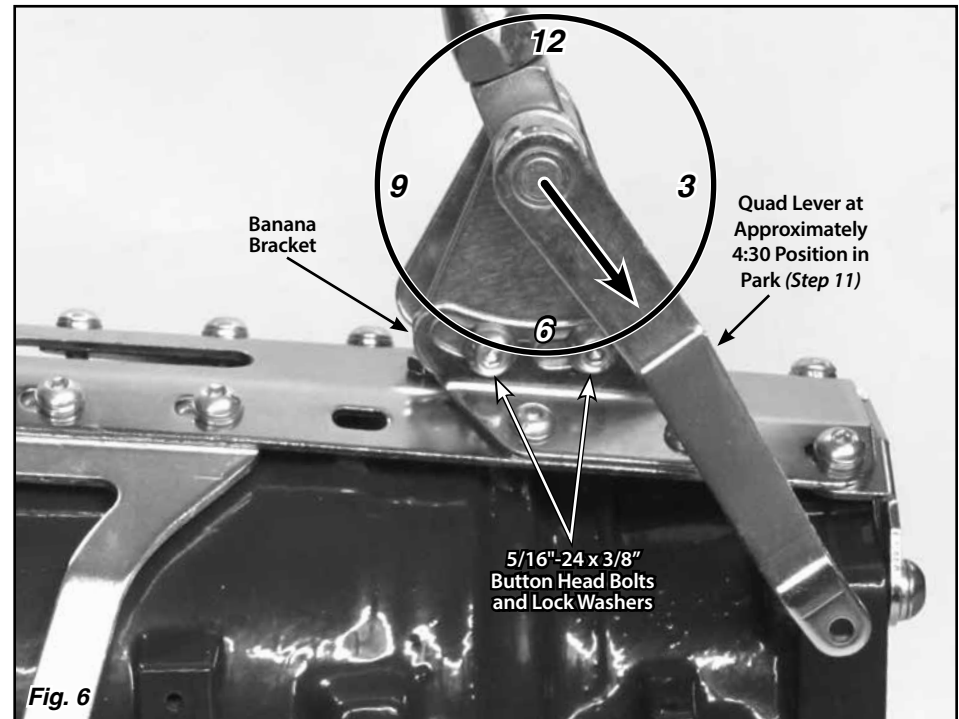

Fig. 6
**Step 10:** Make sure the two 5/16"-24 x 3/8" button head bolts and lock washers that attach the driver side banana bracket to the shifter assembly (in the curved, slotted holes) are tight. Before tightening the shifter assembly down to the main plate, move the shifter lever through all the gear positions. Make sure that the shifter lever and knob will not come in contact with the dash or the seat. The shifter assembly can be tilted forward or backward if needed by loosening the 5/16"-24 x 3/8" button head bolts and lock washers in the curved, slotted holes in the driver side banana bracket. **Fig. 6**
**Step 11:** Put the shifter lever into the Park position and check the position of the quad lever. It will need to be pointing to about the 4:30 position. If it is not, loosen the set screw in the top of the quad lever with a 1/8" Allen wrench and slide the quad lever off of the shaft. Reposition it on the shaft at approximately the 4:30 position, and retighten the set screw. **Fig. 6**
Double check to make sure that the bolts connecting the **driver** side banana bracket to the shifter assembly are tight. **Fig. 6**